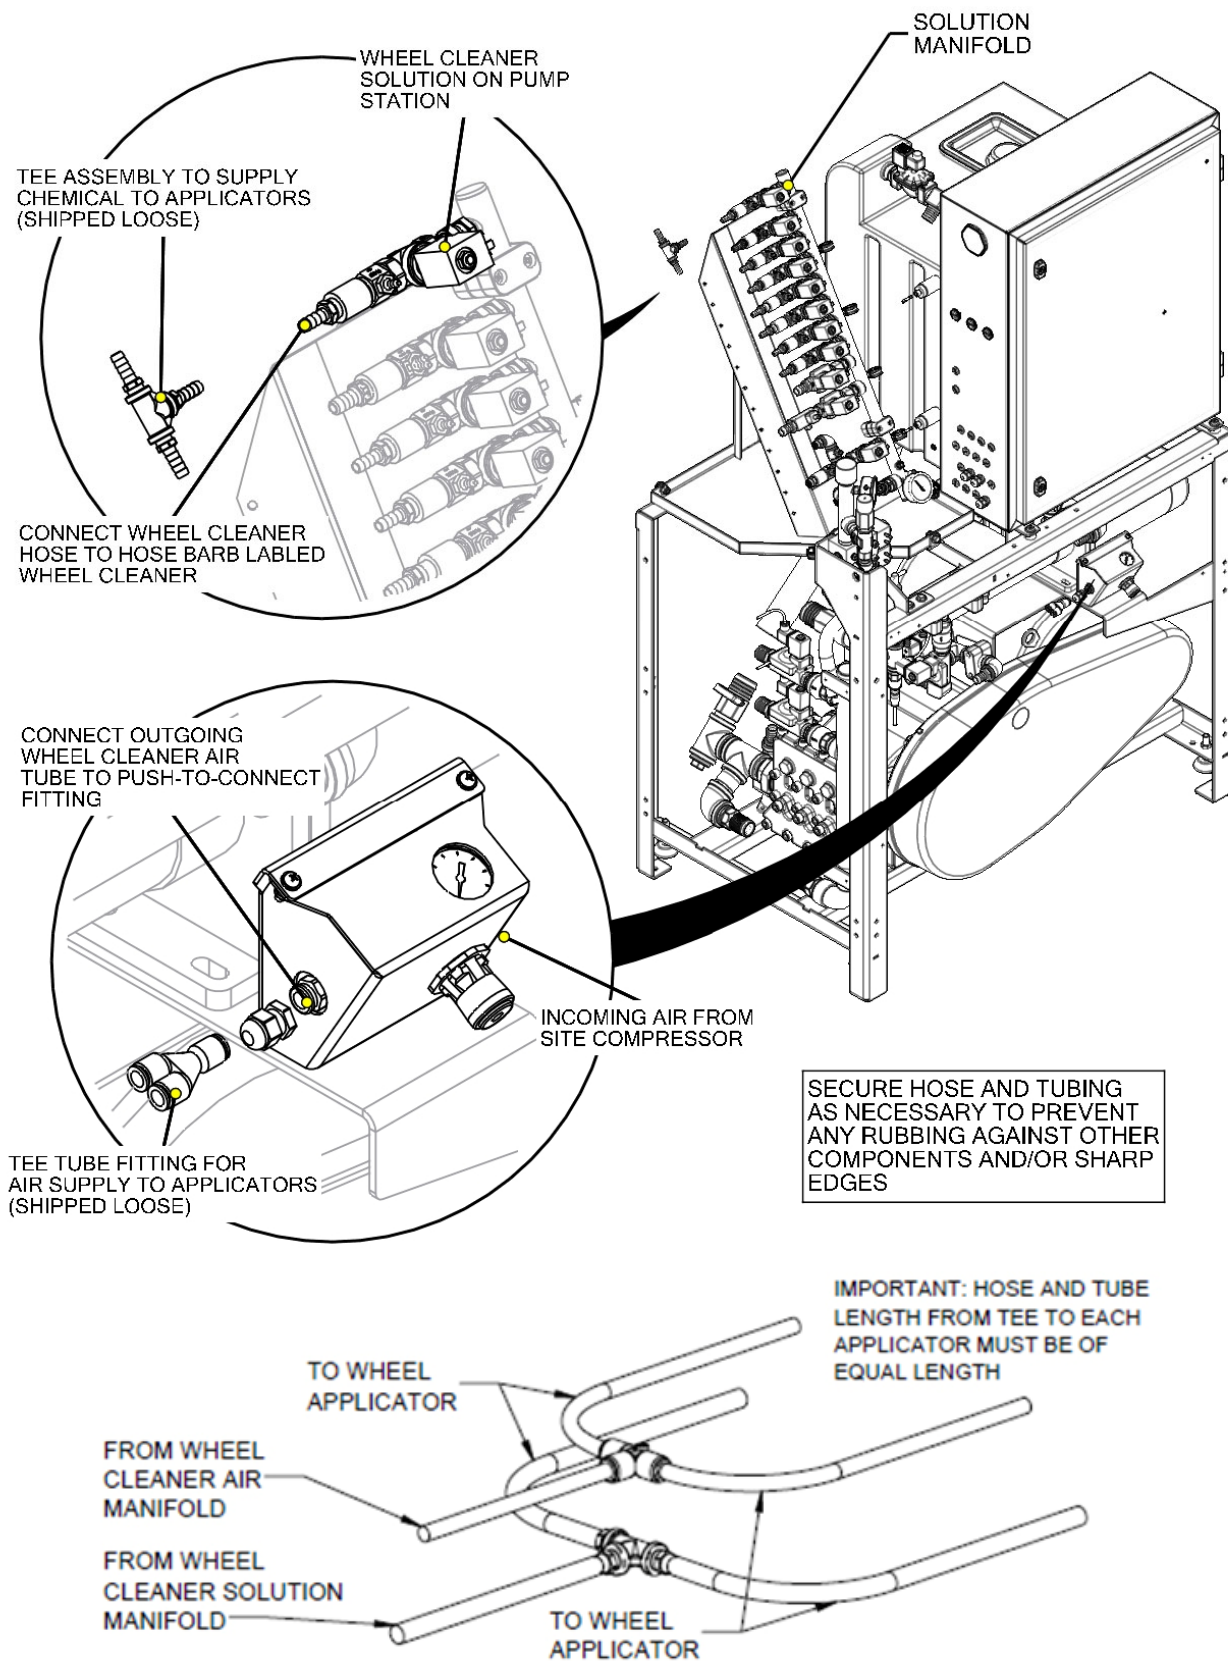

Figure 125 - Wheel Cleaner Solution and Air Supply Installation
- Install the Tee Assembly provided at the output of the wheel cleaner solution manifold with a piece of hose, Figure 125.
- Install the Tee Fitting provided at the output of the wheel cleaner air manifold with a short piece of tube, Figure 125.